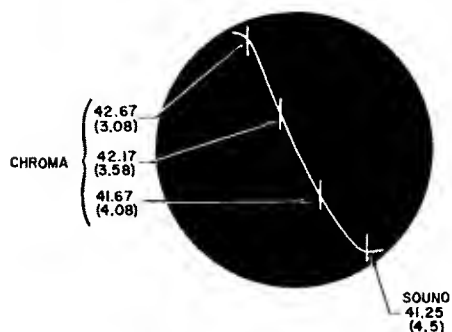

Figure 6.1 Reversal of Sweep when **CHROMA** Switch is Turned On
- 6.1.12 Turn the **CHROMA** switch to the **ON** position. Notice that the curve is the same as in Figure 5.7B except the direction of sweep is reversed as shown in Figure 6.1.